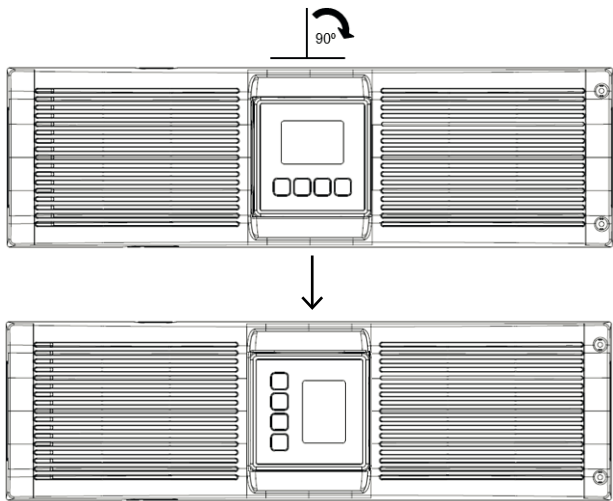

Figure 4: Display rotation
- 1. Carefully rotate the LCD control panel 90° to the right in the UPS and in the battery modules as shown in Figure 4.